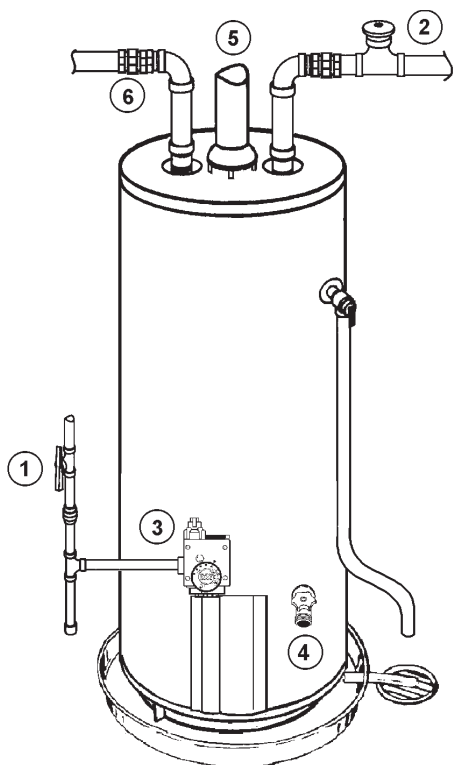

FIGURE 2.
- ④ Attach a hose to the water heater drain valve and put the other end in a floor drain or outdoors. Open the water heater drain valve. Open a nearby hot water faucet which will relieve pressure in the water heater and speed draining. The water passing out of the drain valve may be extremely hot. To avoid being scalded, make sure all connections are tight and that the water flow is directed away from any person, see Figures 2 and 5.
If the main gas line shutoff valve serving all gas appliances is used, also shut "OFF" the gas at each appliance. Leave all gas appliances shut "OFF" until the water heater installation is completed, see Figures 2 and 3.
- ② Turn "OFF" the water supply to the water heater at the water shut off valve or water meter. Some installations require that the water be turned off to the entire house, see Figures 2 and 4.